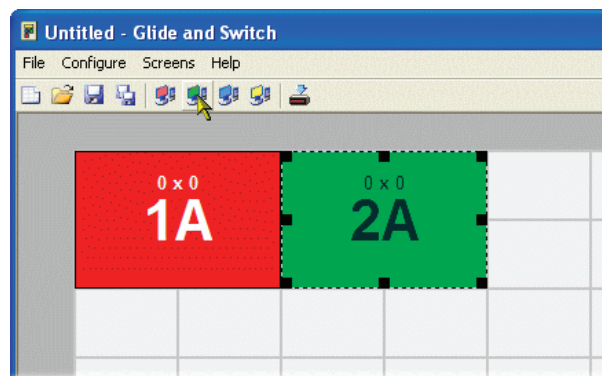

Figure 4-9. Adding display screens to the layout
1. On the icon bar, click the red, green, blue and yellow screen icons (or use the **Screens** menu) to add the required number of display screens to the map area. See Figure 4-9.